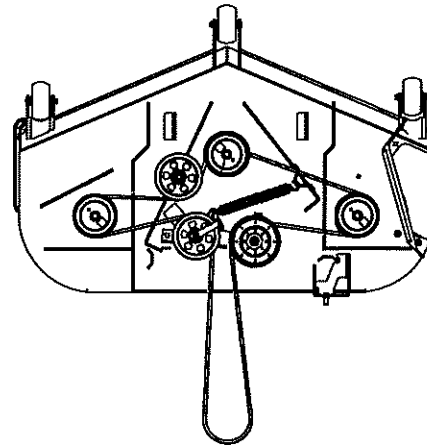

Figure 56
8. Route the belt as shown in Figure 56. Tighten and secure the idler arm hardware.